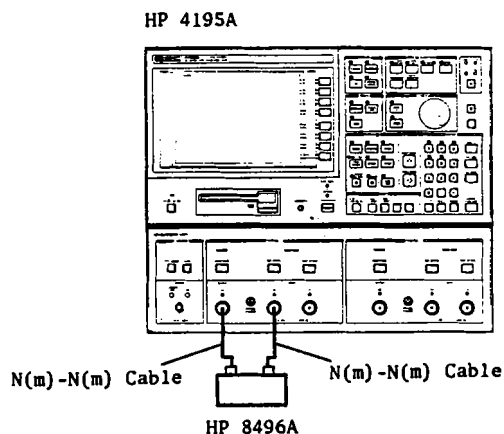

Figure 2-12. Power Sweep Linearity Test Setup
- Configure the test equipment as shown in Figure 2-12.